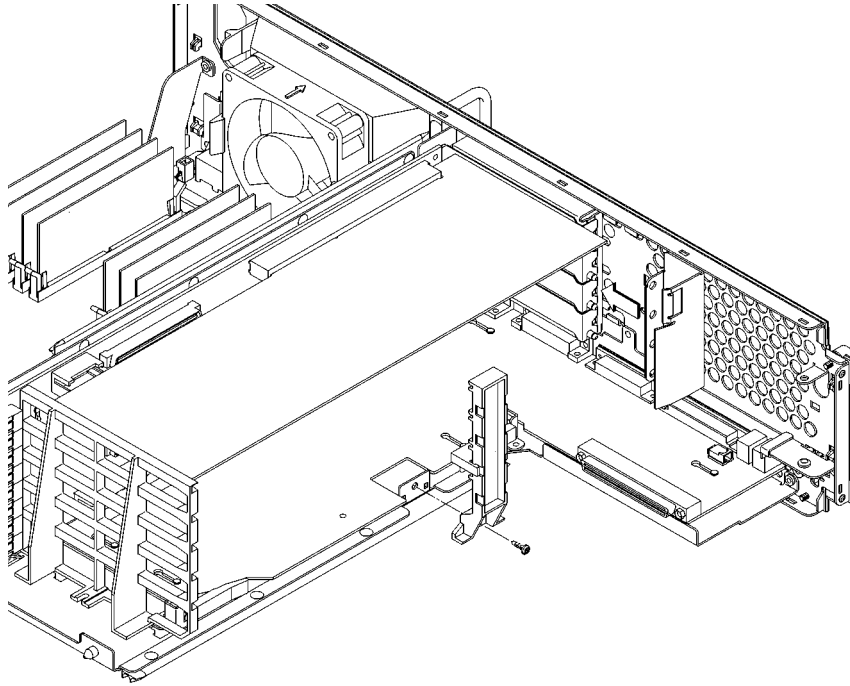

Figure 44 **Installing the EISA Retainer and EISA Slider**
- 9 Replace the EISA retainer and its screw, as shown in Figure 44.
- 10 Replace the EISA slider, as shown in Figure 44.